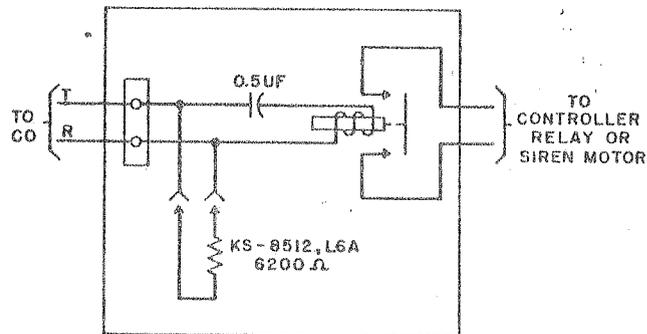

Fig. 3 — Modification of KS-16626, List 1 Power Relay Set
4.01 The KS-16626, List 1 power relay set connects to a line as shown in Fig. 3.
4.02 At those stations where the line is to be placed under continuous test, KS-8512, List 6A resistor equipped with No. 241 terminals should be connected across line as shown in Fig. 3. Insulate exposed leads of the resistor with tape or tubular insulation.